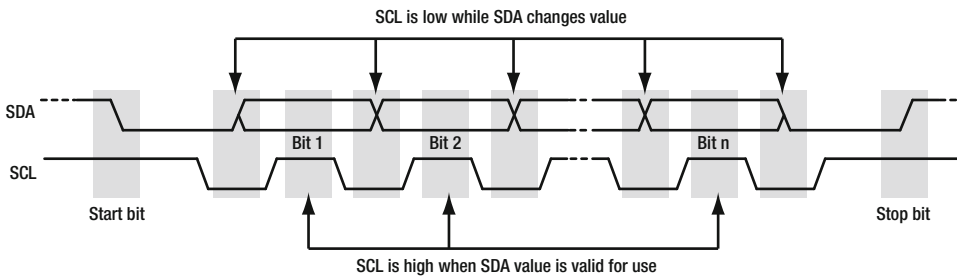

Figure 20-5. I2C bus timings
Initially, a master node is in transmit mode and initiates transactions with the slaves when it chooses to. After sending a start bit, the master transmits the target address value of the slave it wants to communicate with. A final bit to indicate whether it wants to write (0) to the slave or read (1) data from it is followed by a stop bit. The write is signified by a 0 value bit and a read by a 1 value bit. See Figure 20-5 for an illustration of the relative timings between SDA and SCL.